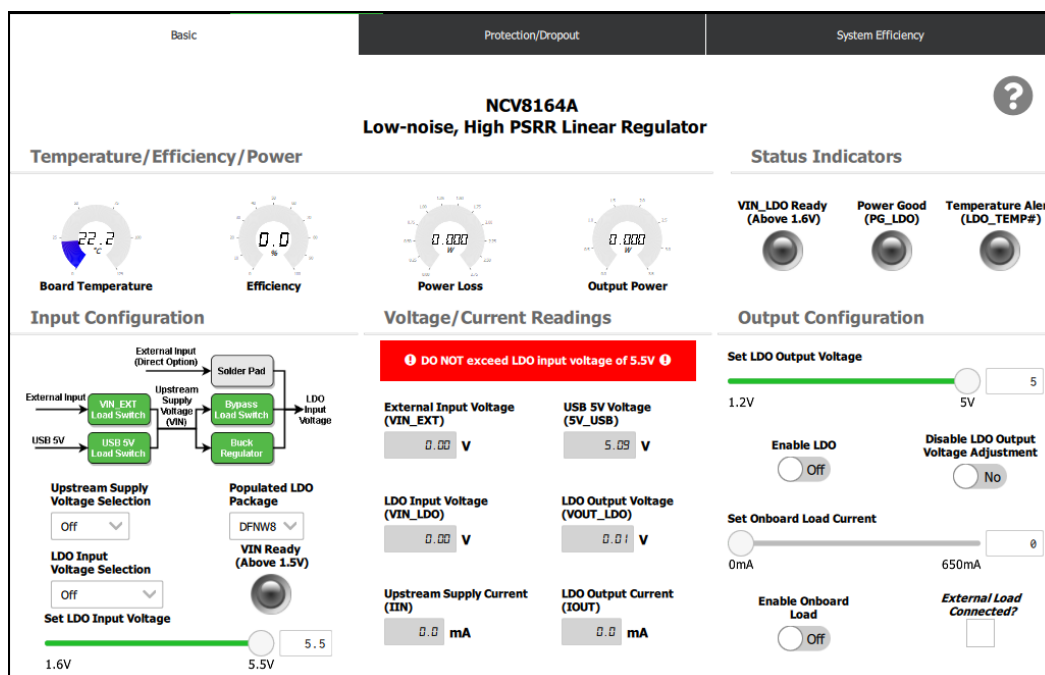

Figure 3: "Basic" UI view
6. The main “Basic” view that comes up (shown in Figure 3) offers basic telemetry, LDO upstream supply voltage selection, LDO package selection, LDO input voltage selection, LDO input/output voltage adjustment, LDO enable toggling, onboard load enable toggling, and onboard load current adjustment.